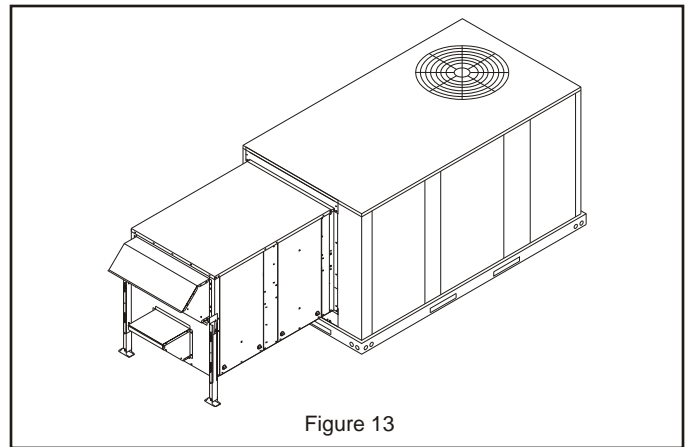

Figure 13
- Check and seal, if necessary, along the edges where the ERS meets the rooftop unit to ensure there is no air leakage. Final assembly should resemble **Figure 13.**